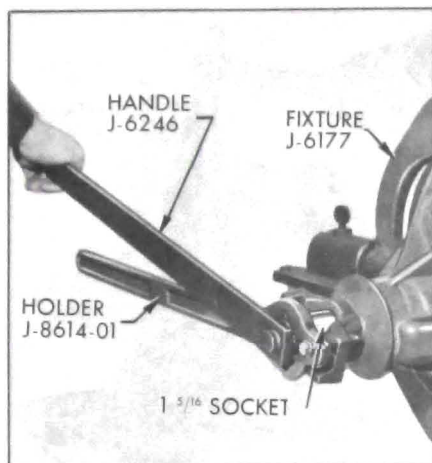

Figure 6-15—Removing Pinion Nut
3. Install Holder J-8614-01 on pinion flange using two 5/16-18 x 2 bolts with flat washers. Remove pinion nut using a 1-5/16 (3/4 drive) socket on Handle J-6246. Remove washer. See Figure 6-15.